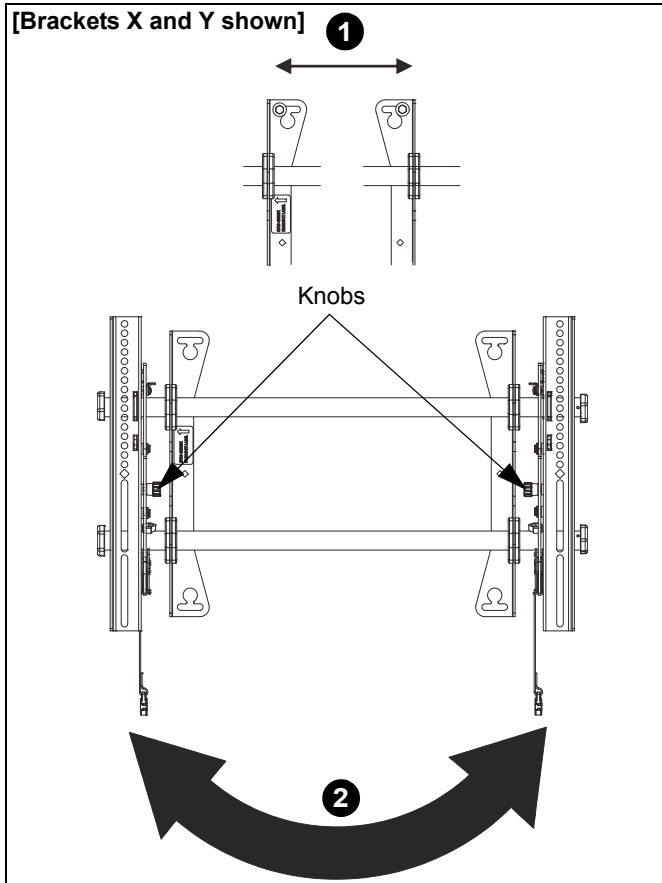

Figure 6
1. The wall brackets may be adjusted side to side at the point of attachment. (See Figure 6)
2. The location of the left and right interface brackets (V and W or X and Y) may be switched, with the knobs on the MTA1U/ LTA1U interface brackets (X and Y) facing the inside of the mount. (See Figure 6)